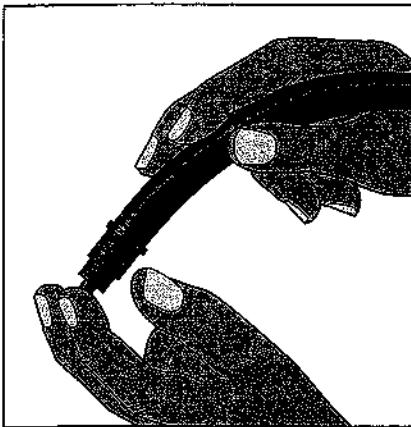

Figure 13-8:
- *** Method 2:** Remove the PCV valve from the valve cover, with the hose still attached, and place your finger over the open end of it (see Figure 13-8). If it's working well, you will feel strong suction.